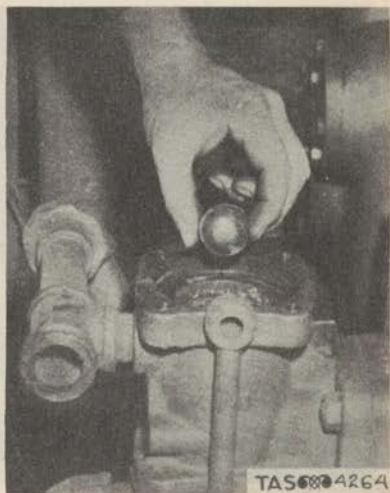

Figure 282. Removal of Discharge Valve Ball.
(13) Remove the discharge valve ball. (Fig. 282)